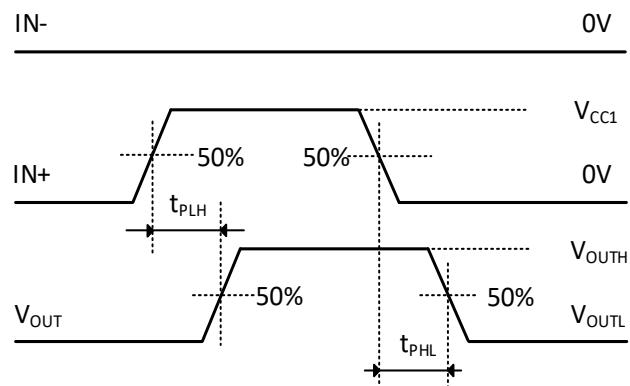

Figure22. Propagation Delay Time Waveform Measurement
(1) tPLH = low-to-high propagation delay time, tPHL = high-to-low propagation delay time. See Figure22.